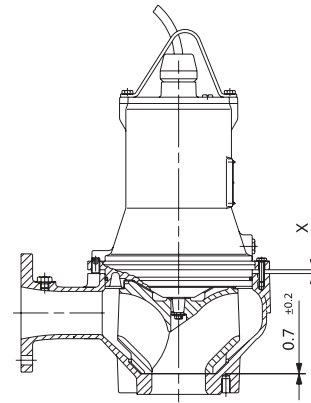

Fig. 12
4. Slacken the fixing screws and open the clearance to $0.7 \text{ mm} \pm 0.2 \text{ mm}$ by tightening the three adjusting screws, see fig. 12. Check that the clearance is equal all around the suction opening.
4. Measure the distance X between the shaft seal housing and the pump housing at three points using a slide caliper, see fig. 12.
6. Tighten all fixing screws and check that the distance X at the three reference points is equal, see fig. 12.